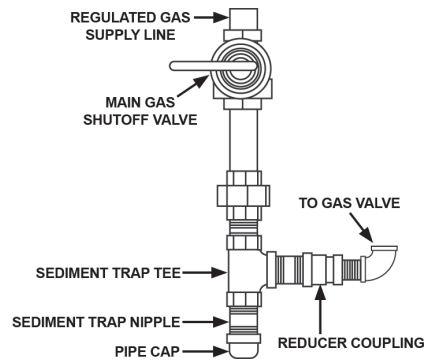
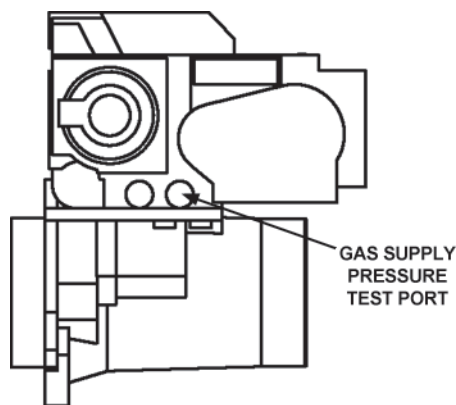

FIGURE 21.
FIGURE 22. – TOP VIEW
To trap any dirt or foreign material in the gas supply line, a sediment trap must be incorporated in the piping (see Figure 21). The sediment trap must be readily accessible and not subject to freezing conditions. Install in accordance with recommendations of serving gas suppliers. Refer to the latest version of the National Fuel Gas Code.
1. For test pressures exceeding 1/2 psi (3.45 kPa) disconnect the water heater and its Main Gas Shutoff Valve from the gas supply piping system during testing, see Figure 21. The gas supply line must be capped when disconnected from the water heater.
1. Close the Main Gas Shutoff Valve, see Figure 21 on page 23.
3. Close the Main Gas Shut Off Valve, see Figure 21 on page 23.
4. Wait five (5) minutes for any residual gas to clear.
5. Open the Supply Gas Pressure Port on the gas valve by turning the center screw counter-clockwise. Connect the manometer to the supply gas pressure test port, see Figure 22.